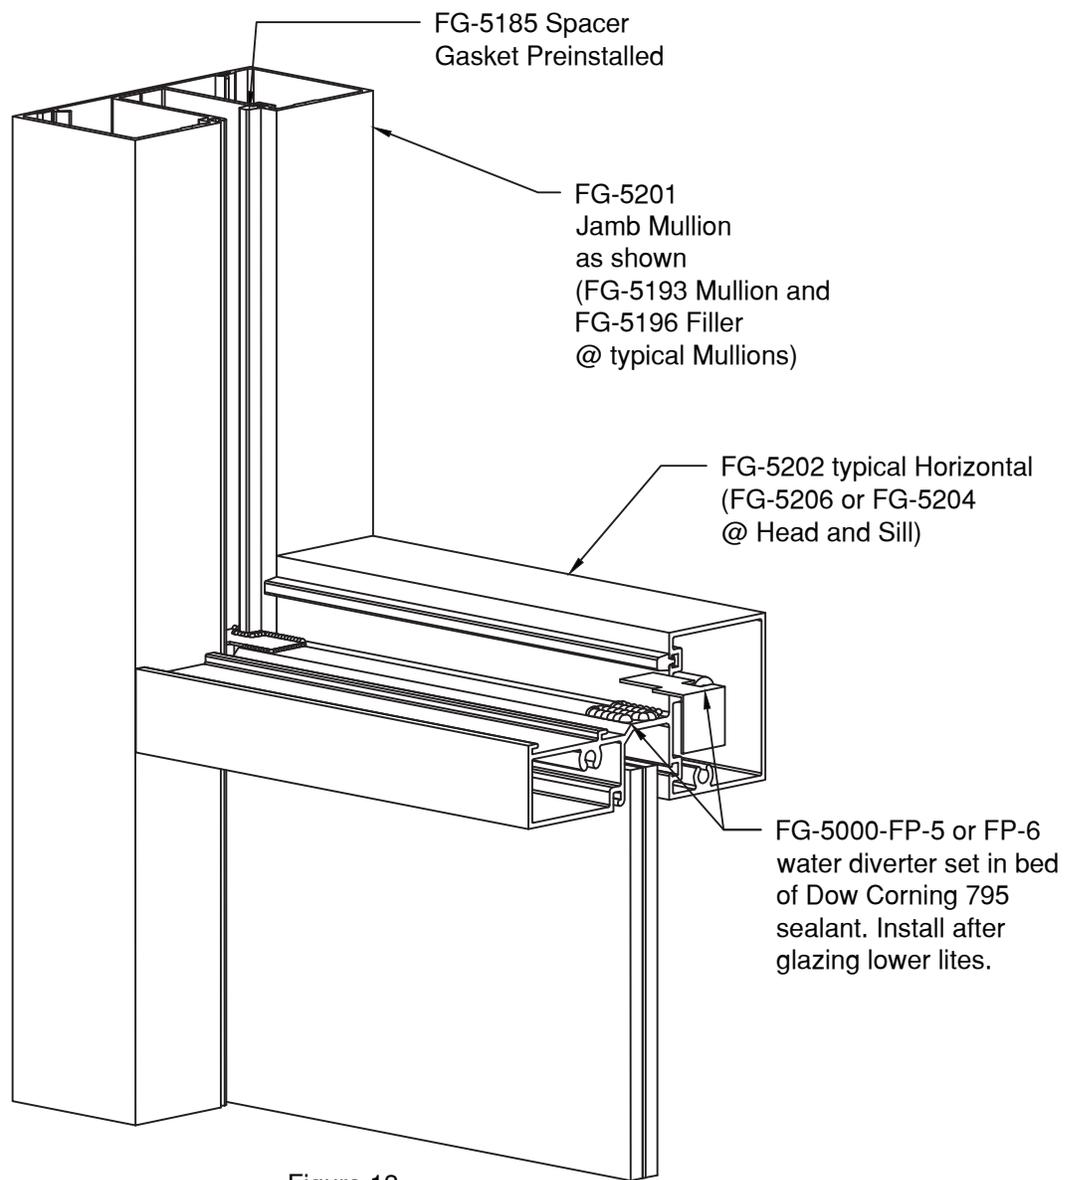
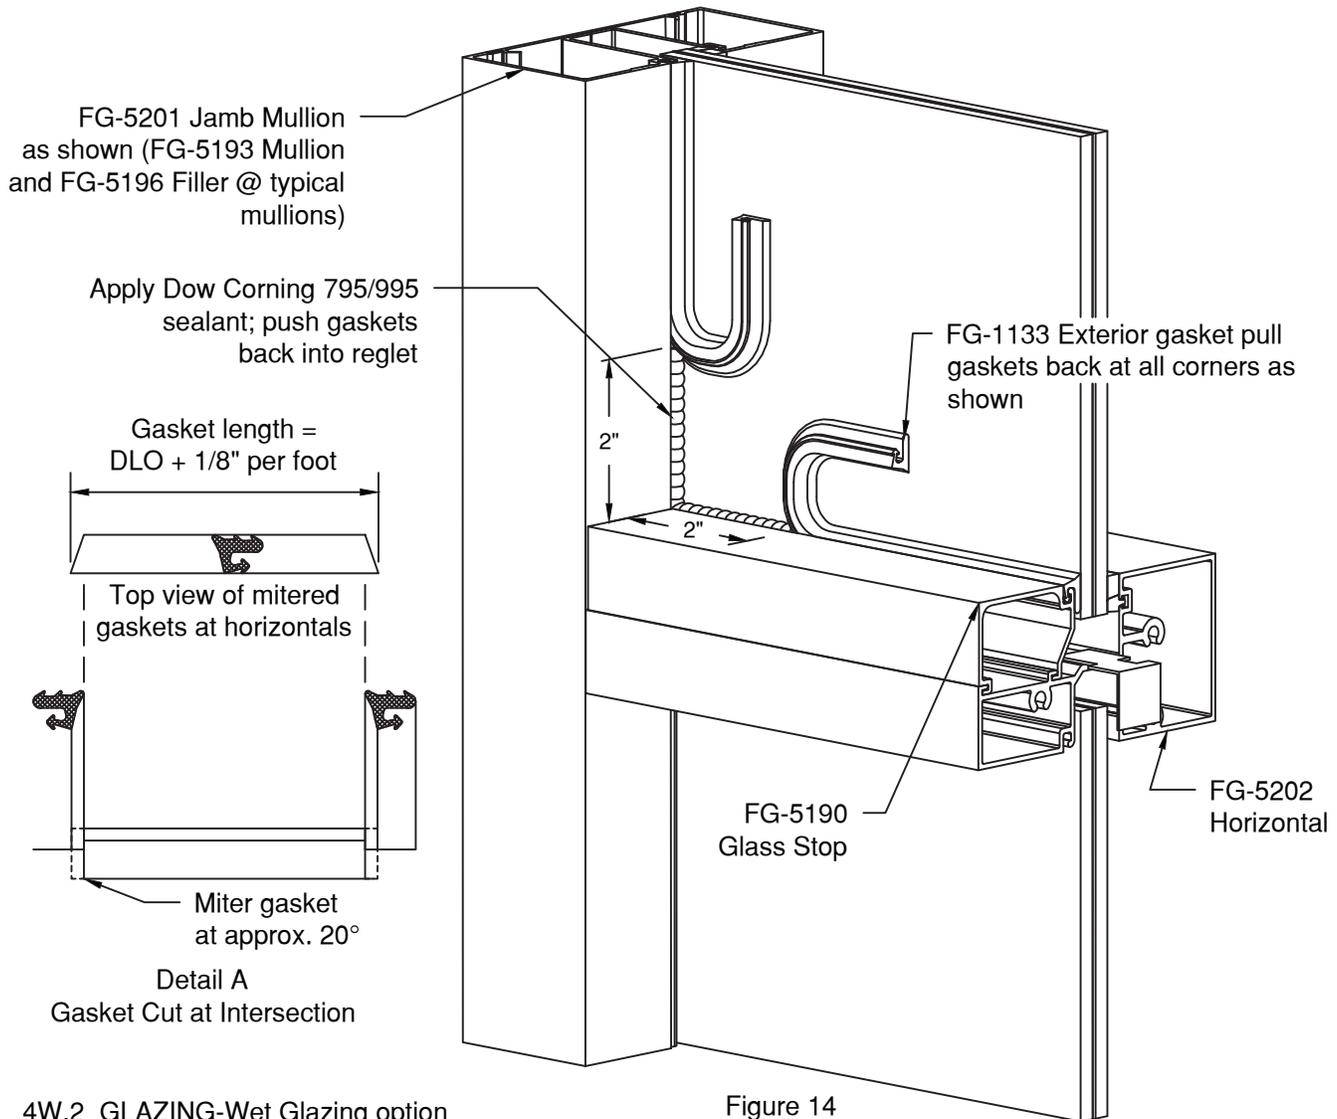
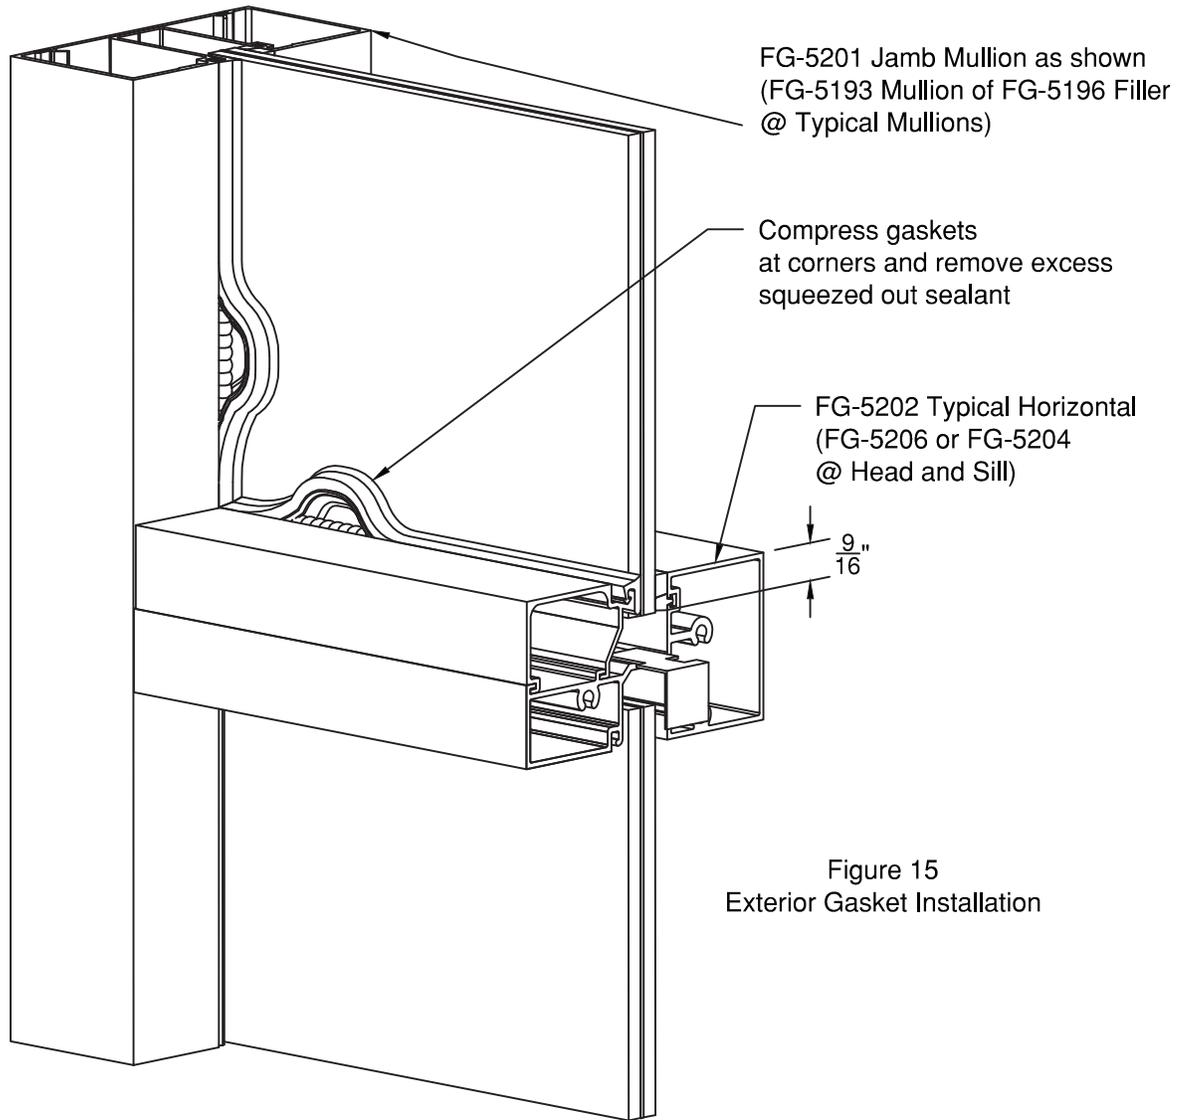

Figure 13
Figure 14
Figure 15
- 4W.1.2 Install water diverters see **Figure 13** after lower lite is in position.
- 4W.2.4 Cut gaskets a minimum of 1/8" per foot longer than daylight opening to provide for adequate compression. as shown at **Figure 14 detail A**.
- 4W.2.5 After gaskets are pressed in place. Pull gasket from pocket as shown in Figure 13 above. Clean glass and gaskets a minimum of 2" from each end with isopropyl alcohol. Apply Dow Corning 795/995 sealant see Figure 14. Push gaskets into reglet, **See Figure 15 on page 18**.